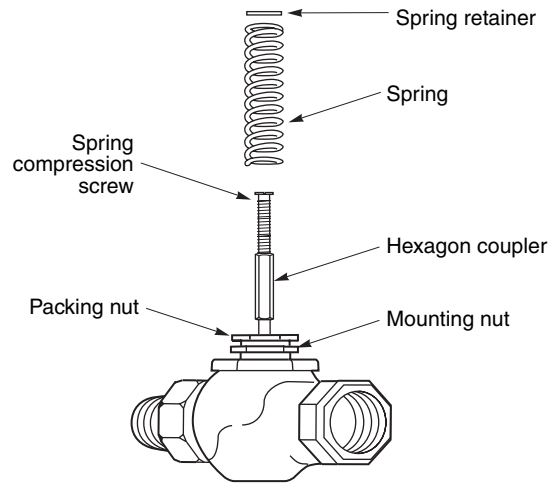

Figure-2 Assembly of AV-400 Linkage Kit onto VB-7xxx Series Valve.
2. Start the spring compression screw one turn or more into the hexagon coupler. Pull the valve stem completely up (Figure-2).